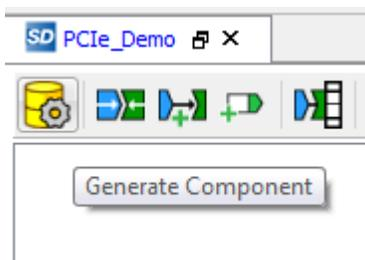

Figure 35 • Generate Component
34. Open the **PCIe_Demo** tab and click **Generate Component** as shown in Figure 35.